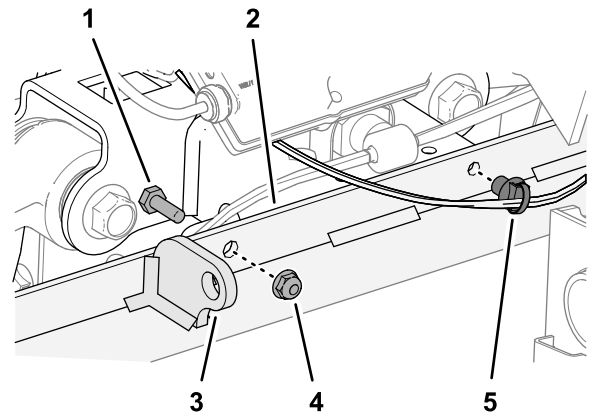

Figure 194
2. Remove the capscrew (1/4 x 3/4 inch) and flange locknut (1/4 inch) from the flange of the machine frame as shown in Figure 194.
3. Remove the push-in fastener that secures the wire harness of the flange of the machine frame (Figure 194).